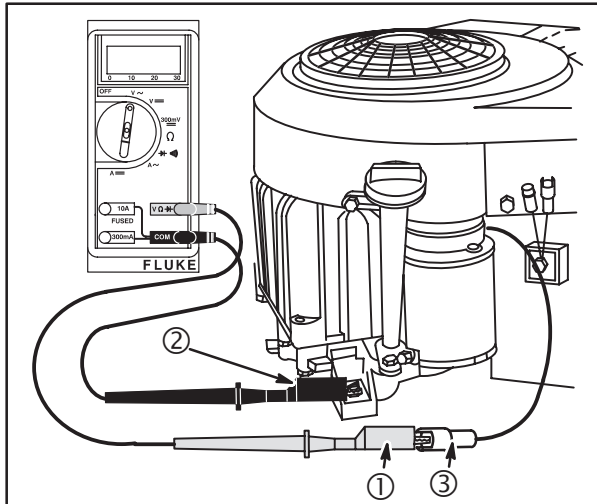

Fig. 24
4. Attach RED test lead clip (1) to GREEN output terminal (3), **Fig. 24**.
5. Attach BLACK test lead clip (2) to engine ground.